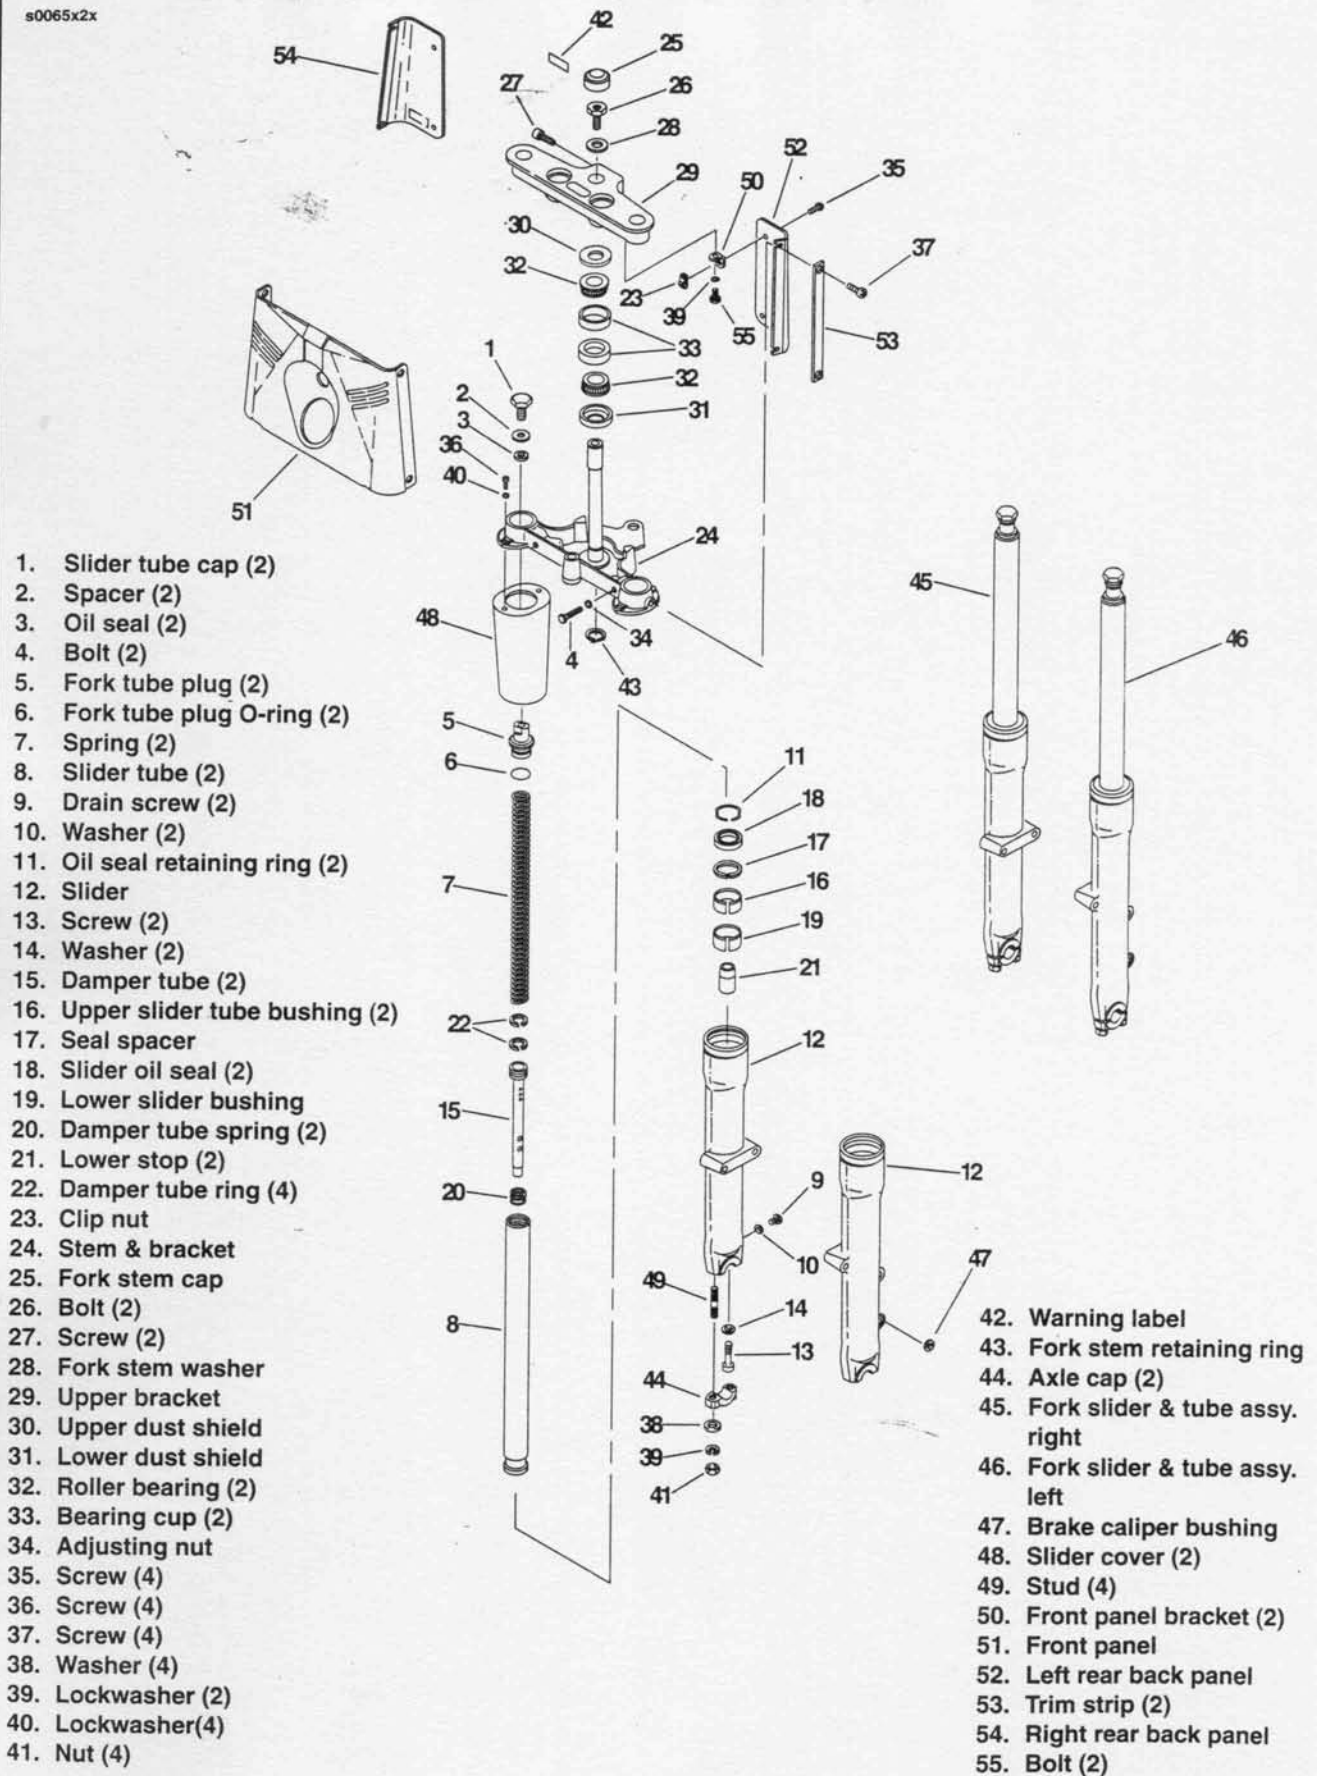

Figure 2-58. Front Fork – FLSTC, FLSTF
3. See Figures 2-58 or 2-59. Remove the slider tube cap (1), spacer (2) and oil seal (3) from the top of one fork side.
4. Loosen the pinch bolt (4) and pull the fork side from the brackets.
See Figures 2-58 or 2-59. Fork tube plug (5) is under spring pressure. Remove carefully to prevent personal injury.
2. See Figures 2-58 or 2-59. Remove the fork tube plug (5) and O-ring (6). Pull spring (7) out of slider tube (8). Remove drain screw (9) and washer (10), and drain the fork.
3. Remove dust seal (23) (FXSTC only). Compress retaining ring (11) and remove the clip from the internal groove at the top of slider (12).
1. See Figures 2-58 or 2-59. Inspect friction rings (22) on damper tube (15) and replace if worn excessively or damaged.
2. Check FXSTC dust seal (23) where it rubs on fork tube (8). The tube should show a bright, shining surface, free of scoring or abrasions, and the dust seal should present a good continuous seal and not show excessive wear.
4. Inspect small hole in lower end of fork tube (8) and be sure it is not obstructed.
5. Be sure O-ring (6) is in good condition, without irregularities, and that it provides proper sealing when in place.
7. Replace bent or damaged fork tube (8).
1. See Figures 2-58 or 2-59. Install damper tube rings (22). Place damper tube spring (20) on damper tube (15). Insert damper tube into fork tube (8).
2. Insert spring (7) into fork tube (8), tapered side toward damper tube, and push bottom of damper tube (15) through the opening at the bottom end of the fork tube. Place lower stop (21) over end of damper tube (15).
3. Position fork tube (8) and damper tube (15) in slider (12). Hold the assembly in place by exerting pressure on the spring and install socket screw (13) with washer (14).
4. Place upper bushing (16), seal spacer (17) and a new seal (18) (in that order) over fork slider (12). Be sure that the flanged surface of the seal spacer (17) is up and lettered side of the seal is facing upward. Place installation tool HD-34634 over fork slider (12). Seat bushing (16), spacer (17), and seal (18) into the slider bore by lightly tapping the components into place with the installation tool. Install retaining ring (11). On FXSTC only, install dust cover (23).
1. See Figures 2-58 or 2-59. Insert both fork side assemblies up through the fork stem and bracket (24) and upper bracket (29).
2. Install a new oil seal (3), spacer (2) and fork tube plug (5). Tighten securely. Be sure one flat on each fork tube plug (5) faces toward the inside of the fork.
3. Install slider tube cap(s) (1).
4. Tighten the fork stem bracket pinch bolt(s) (4) to 23-28 ft-lbs (31-38 Nm).